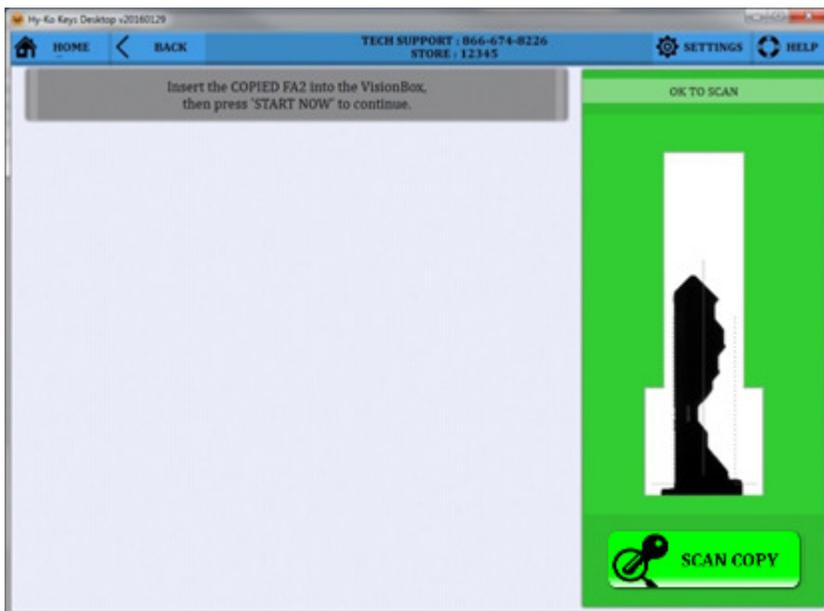

fig. 38
- Insert the newly cut key into the Vision Box (see fig. 39). You will see the image of the key blade in the scanning window on the right side of the screen (see fig. 38).